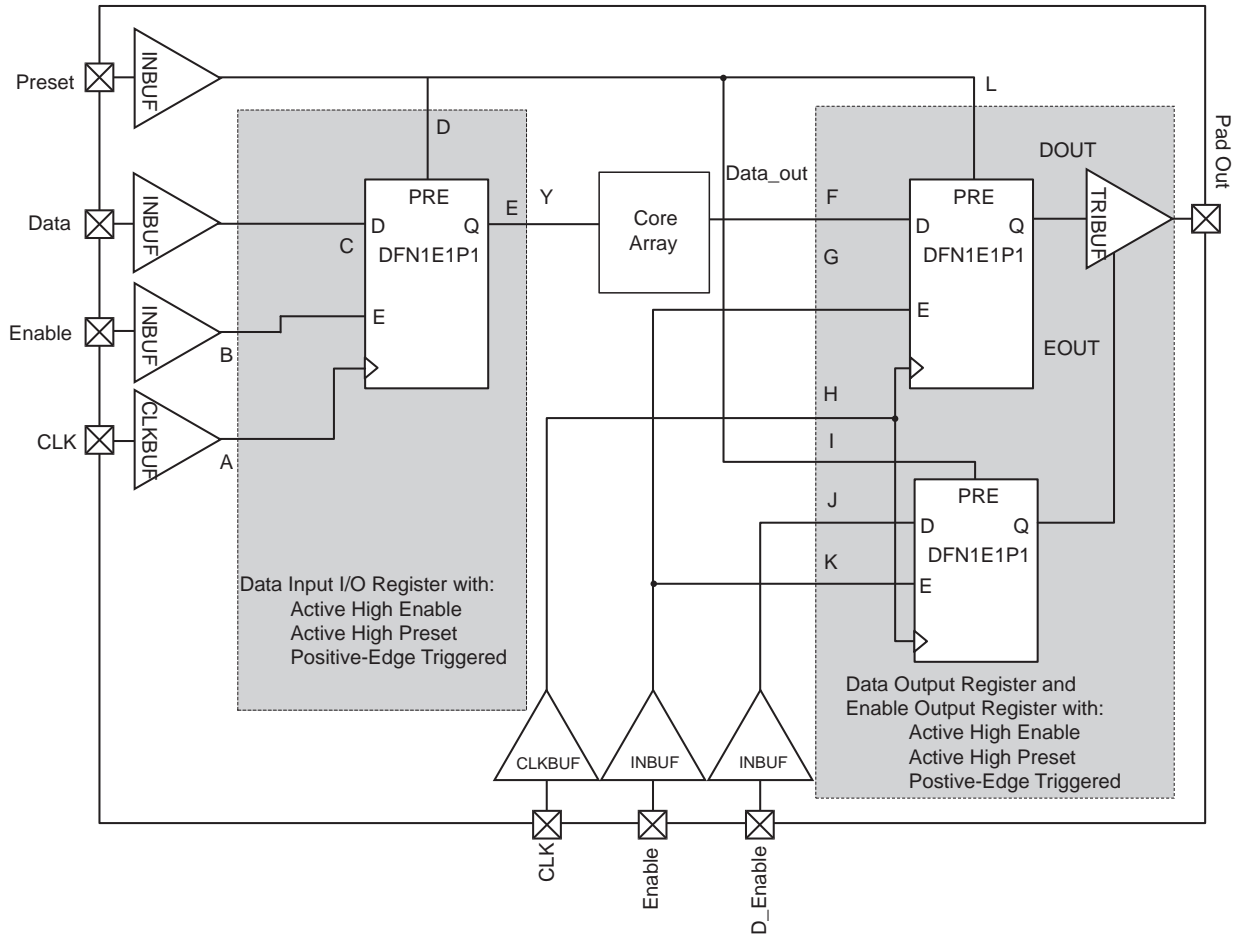

Figure 2-27 • Timing Model of Registered I/O Buffers with Synchronous Enable and Asynchronous Preset
* See Figure 2-27 on page 2-75 for more information.